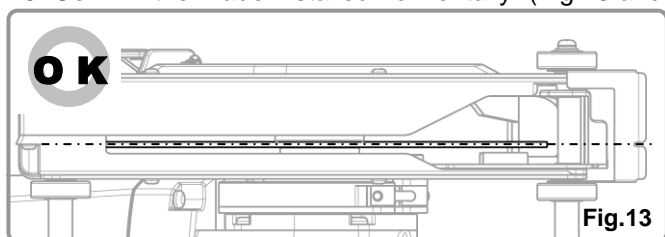

Fig.13
15. Confirm the Blade installed horizontally. (Fig.13 and 14)